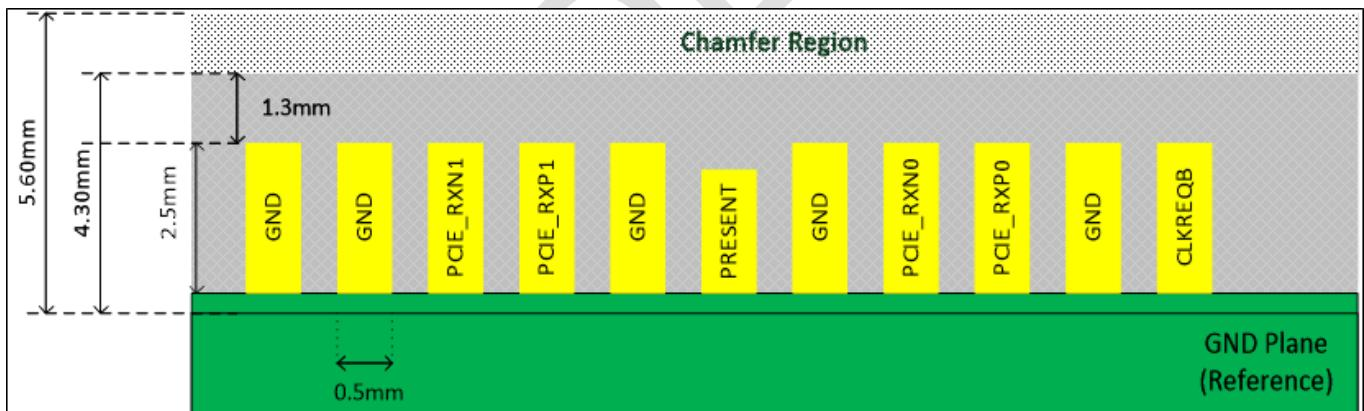

Figure 25: The Gap Between Edge-Fingers and Chamfer Region
3. The length of **Add-in Card** edge-fingers is 2.5 mm. There is a 1.3 mm gap between the edge-fingers and the chamfer region is shown in Figure 25: The Gap Between Edge-Fingers and Chamfer Region